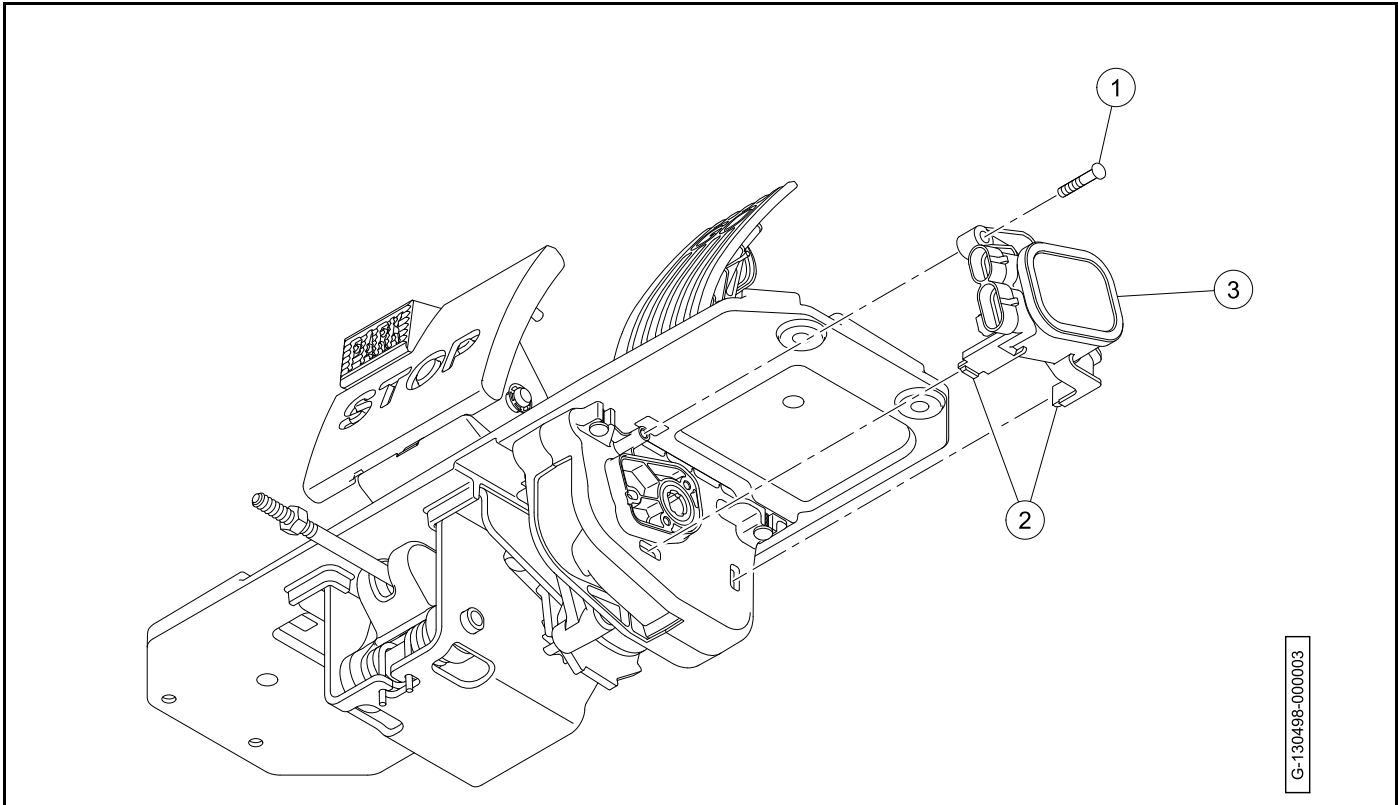

Figure 13-14
3. Remove the screw (1) (**Figure 13-14**).
4. Disconnect the tabs (2) from the accelerator pedal and remove the motor controller output regulator (MCOR) (3).